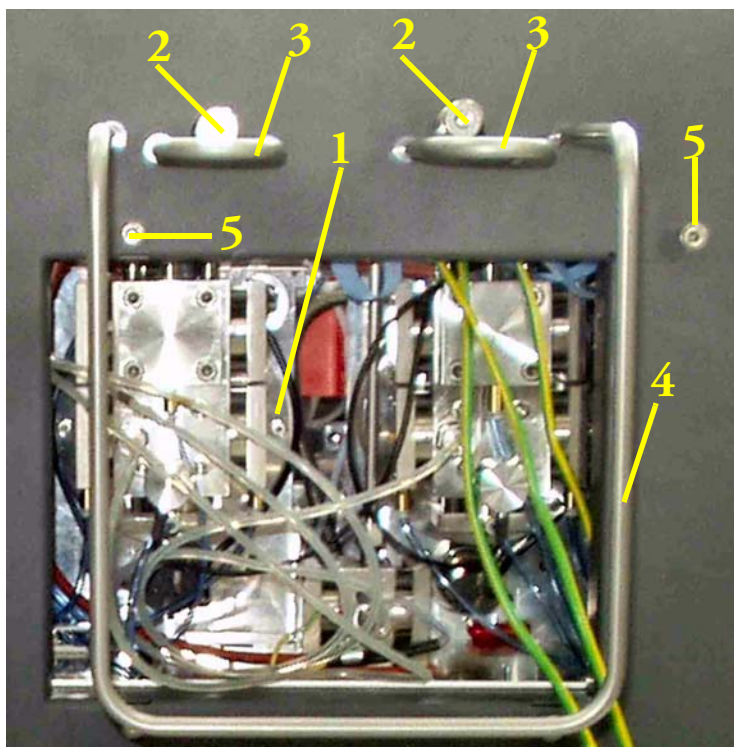
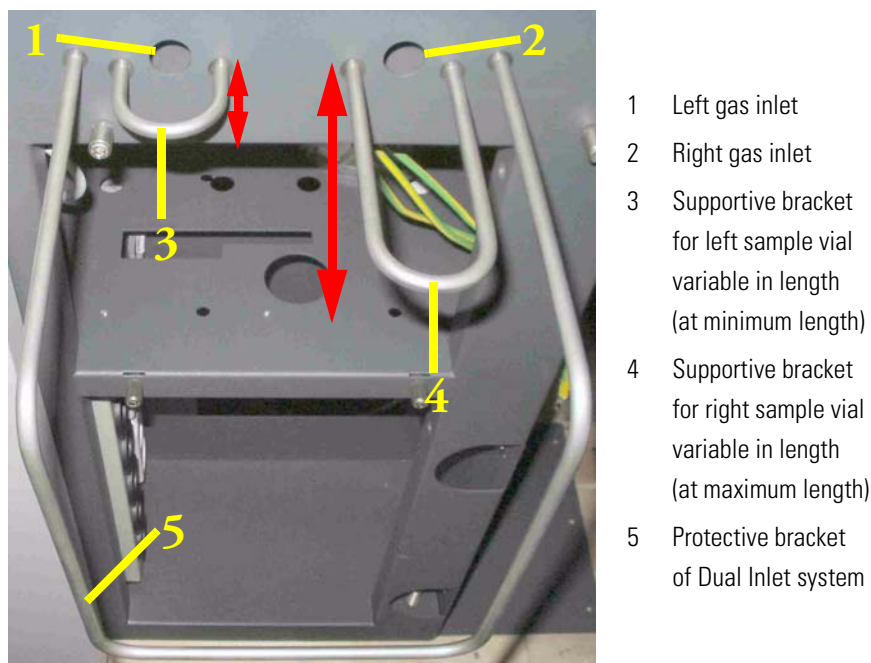

Figure 2-13. Dual Inlet System Cabinet
Figure 2-14. Supportive Brackets - without Sample Vials
This section describes the cabinet at the front side that allows access to the Dual Inlet system. See Figure 2-13, **3** in Figure 2-1 and Table 2-13 for the individual components. The Dual Inlet system is an option. If no Dual Inlet system is available, the cabinet is empty.
*Refer to Figure 2-13.
The Dual Inlet system, **1** in Figure 2-13, will be treated in-depth in Chapter 4: "Dual Inlet System" together with its options.
A wide variety of sample vials can be attached at both gas inlets (**2** in Figure 2-13 and **1, 2** in Figure 2-14). This is possible due to supportive brackets (**3** in Figure 2-13 and **3, 4** in Figure 2-14).
A protective bracket (**4** in Figure 2-13 and **5** in Figure 2-14) secures the attached sample vials from being broken away, e.g. when someone operates near them. If no Dual Inlet system is available, the protective bracket is missing.
The bolts for panel insertion, **5** in Figure 2-13, allow to easily re-insert panels after they have been removed.